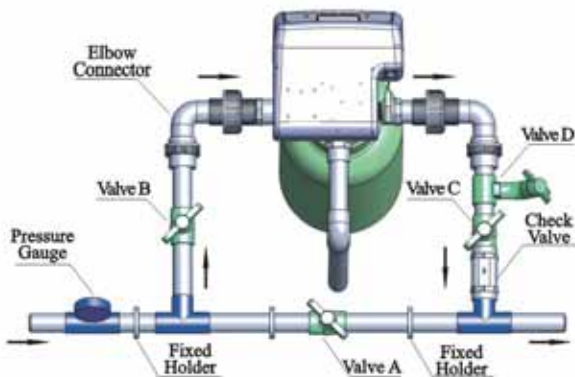

Figure1-2
② Pipeline connection
a. As figure 1-2 shows, install a pressure gauge in water inlet.